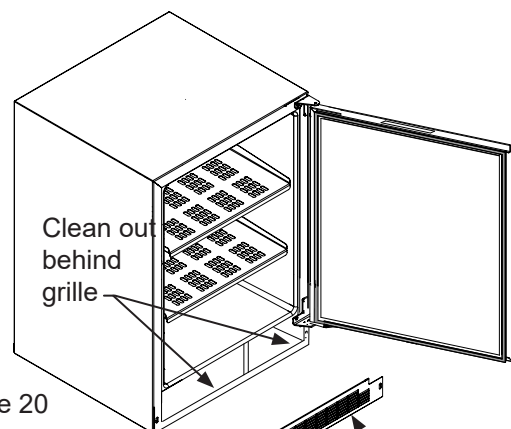

Figure 20
8. Remove the front toe-grille, (see Figure 20), and use a brush and vacuum to clean dirt and debris from beneath the unit.
9. Thoroughly clean the toe-grille and re-install on the unit. (See Figure 20).